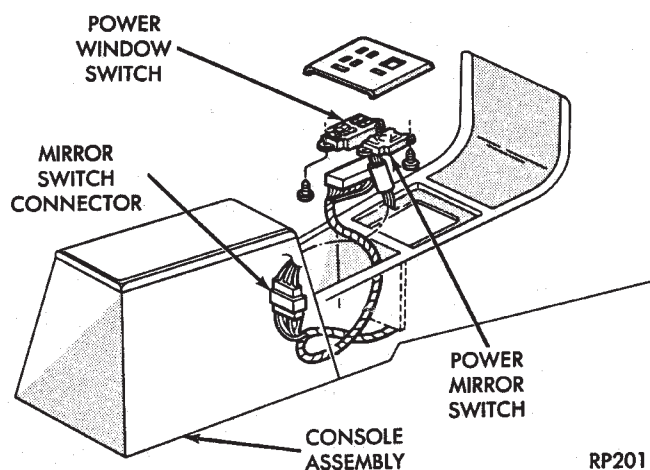

Fig. 11 Power Mirror Switch — AP Body
- (1) Remove power mirror switch bezel from mounting position (Fig. 11).
- (2) Turn bezel over and remove two switch retaining screws.